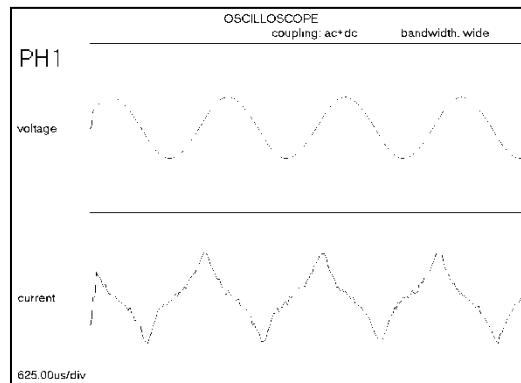
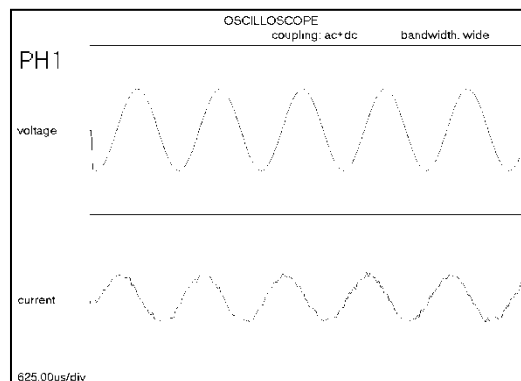

Fig 1 (Distorted current waveform)
Fig 2 (Correct current waveform)
**Note:** The amplifier contains an output rms current protection circuit, and when driving some capacitive loads this circuit may be activated. Due to capacitor construction, at high current, the amount of energy transfer distorts the current waveform resulting in excessive peak current (Fig 1 below), whilst the rms value remains within specification. To ensure correct functionality and prevent false triggering of the protection circuit, ideally, the current waveform should be a sinewave as pictured in (Fig.2 below).